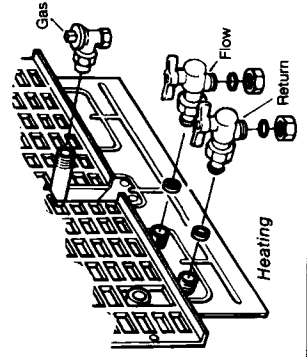

Fig. 12
Loosely fit (hand tight) the valves and fittings using the washers supplied (Fig 12)
- 5.6** Figs. 12 and 16 show the locations of the fittings.